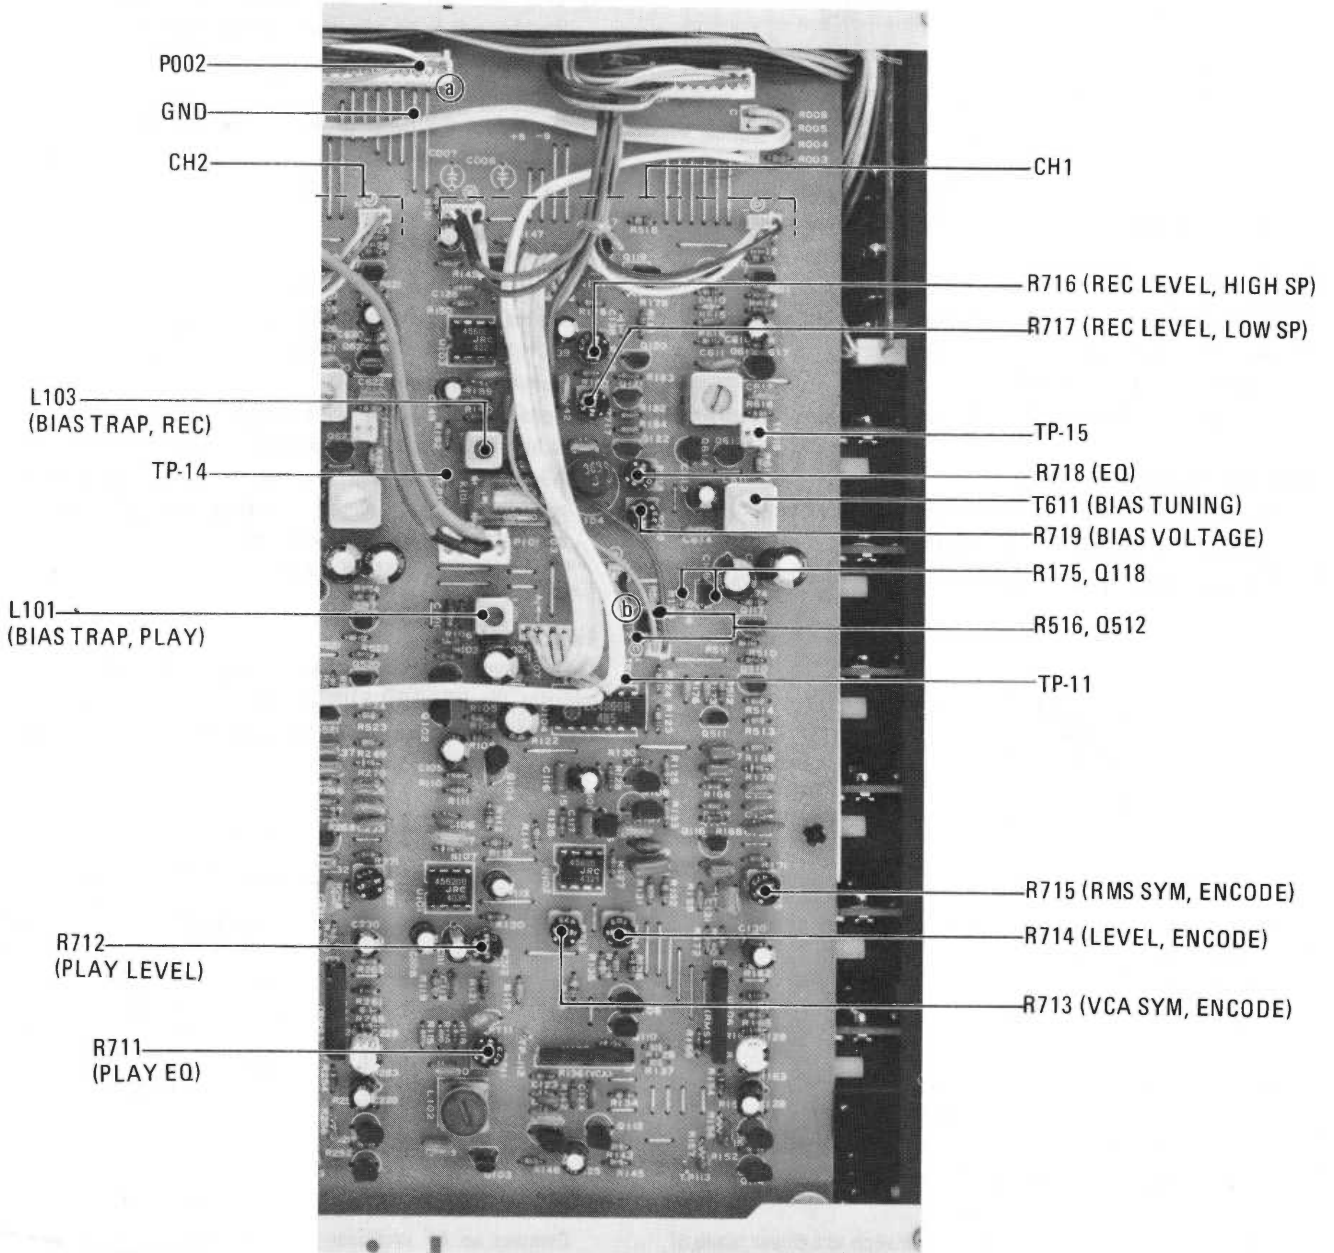

Fig. 4-6-1
- 2) Playback a test tape MTT-150, 400 Hz, and adjust the trim pot R712 for -7 dBV (447 mV) reading on the level meter. (Refer to Fig. 4-6-1) Under this condition, the VU meter will deflect $VU \pm 1$